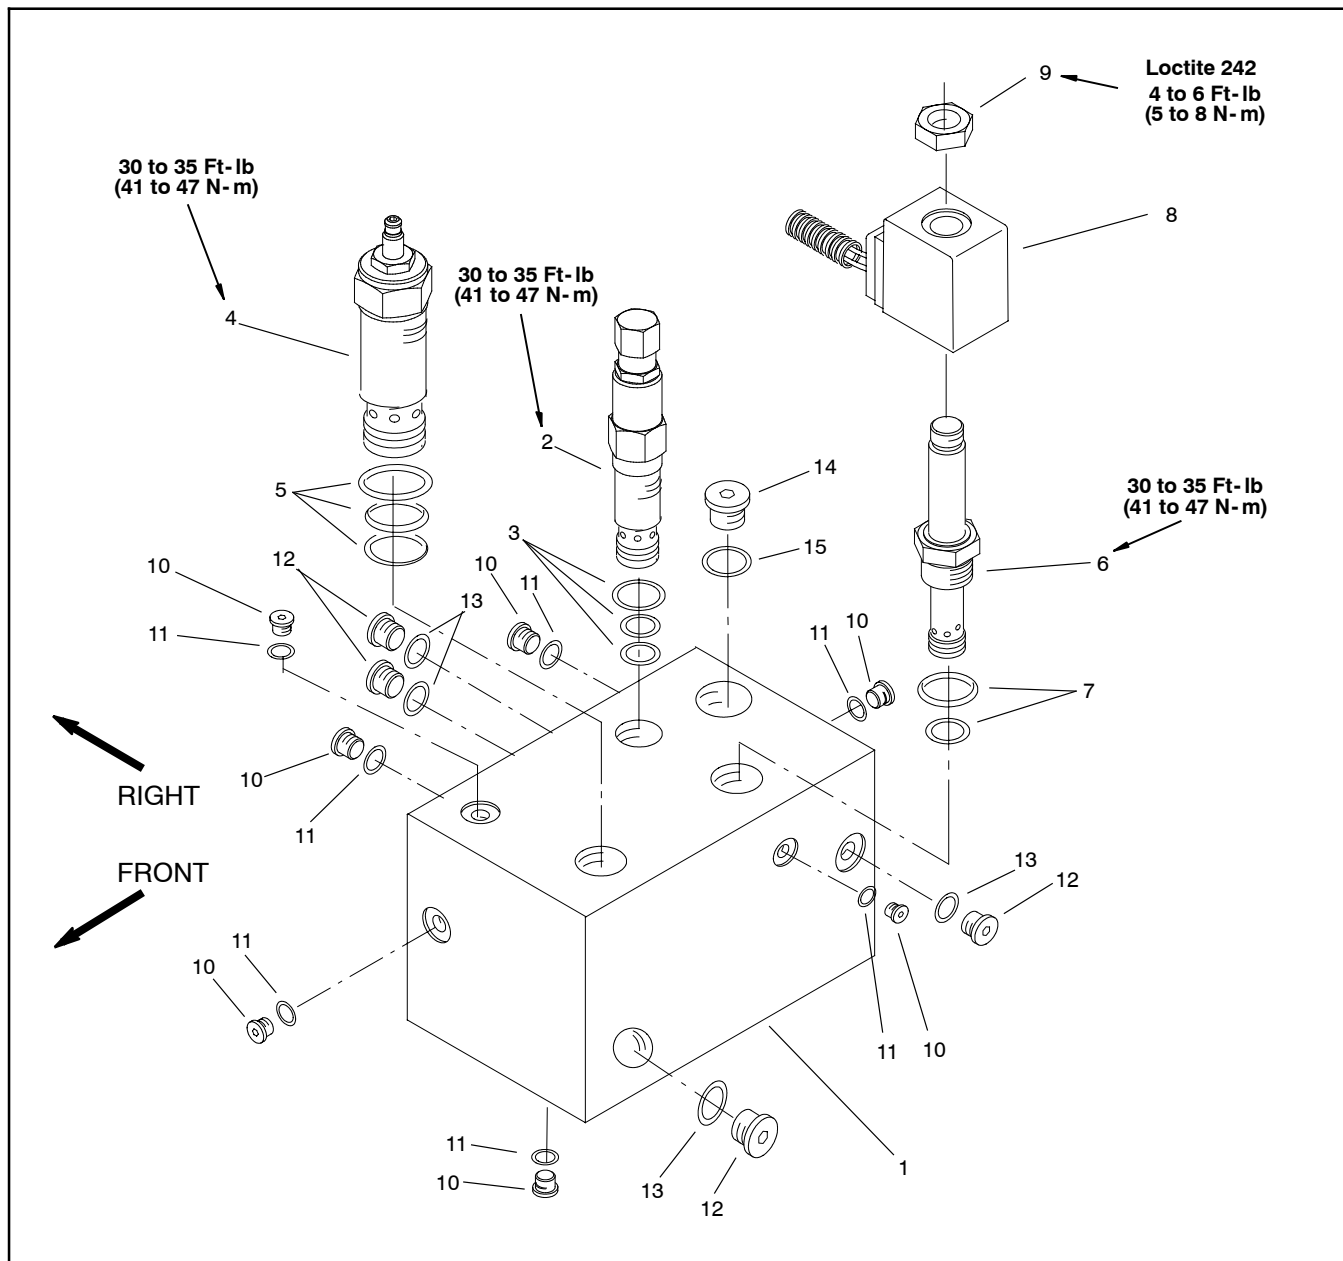

Figure 92
SRV Cartridge Valve (Fig. 92 and 93)
Braking and Logic Cartridge Valves (Fig. 92 and 93)
B. Thread cartridge valve carefully into the applicable port (Fig. 92). The valve should go in easily without binding. Torque valve to 30 to 35 ft-lb (41 to 47 N-m).